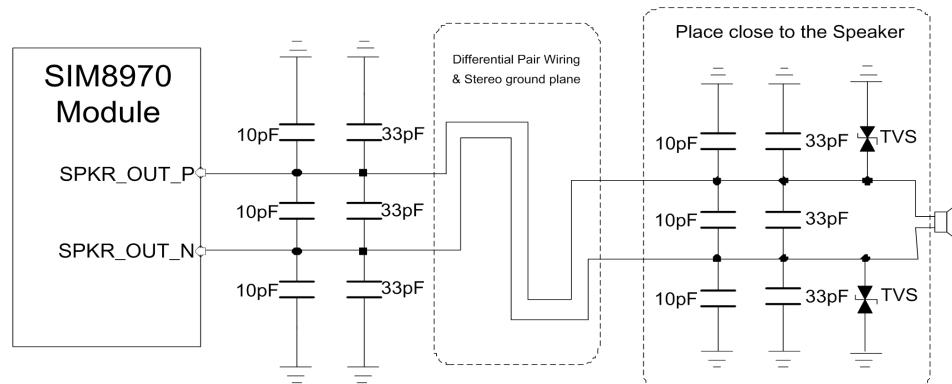

Figure 28: Speaker Reference Design
SIM8970x series module integrates a Class-D Type audio power amplifier (PA) internally. The PA integrates an internal SPKR\_BOOST (Maximum Output Voltage 5.5V) circuit. The audio PA feature is listing in Table 20, and the reference design for the speaker interface is showing in the Figure 28.